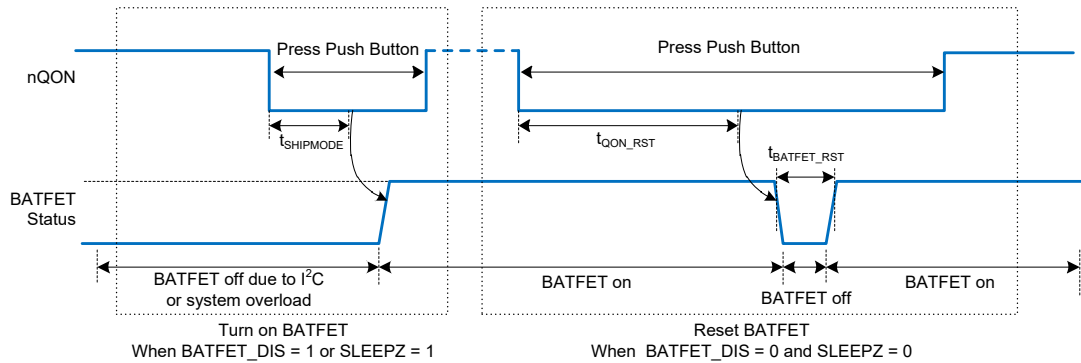

Figure 11. nQON Enable and Reset BATFET Timing
1. Enable BATFET: Applying an `nQON` logic high to low transition with longer than $t_{SHIPMODE}$ deglitch time (negative pulse) turns on BATFET to exit ship mode (Figure 11 left). `HIZ` is also enabled (`EN_HIZ` = 1) when exiting shipping mode. After exiting shipping mode, the host can disable `HIZ` (`EN_HIZ` = 0). `OTG` cannot be enabled until `HIZ` is disabled (`OTG_CONFIG` = 1).
2. Reset BATFET: By applying a logic low for a duration of at least t_{QON_RST} to `nQON` pin while VBUS is not powered and BATFET is allowed to turn on (`BATFET_DIS` bit = 0), the BATFET turns off for t_{BATFET_RST} and then it is re-enabled resulting in a system power-on reset. This function can be disabled by clearing `BATFET_RST_EN` bit (Figure 11 right).